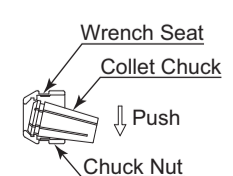

Fig. 8
- Install a new collet chuck in the chuck nut by positioning the collet chuck in the chuck nut and pressing down on a flat surface. (Fig. 8)